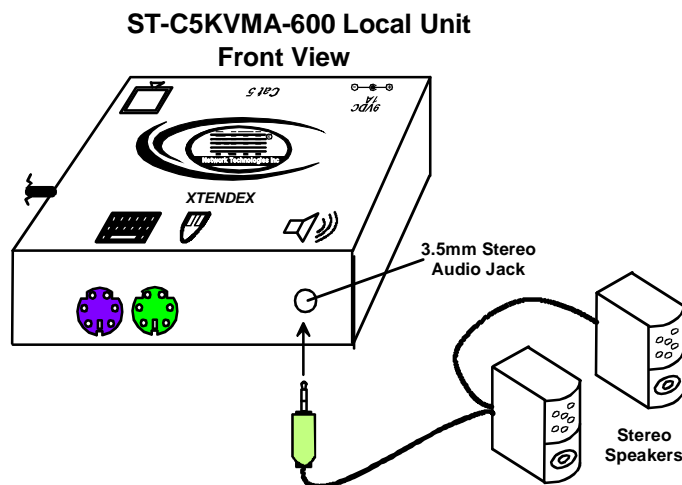

Figure 4- Connect stereo speakers to XTENDEX Local Unit with audio support
- e) If the Local Unit has audio support, connect the cable from the local speakers to the 3.5mm stereo audio jack on the Local Unit. (See Fig. 4)